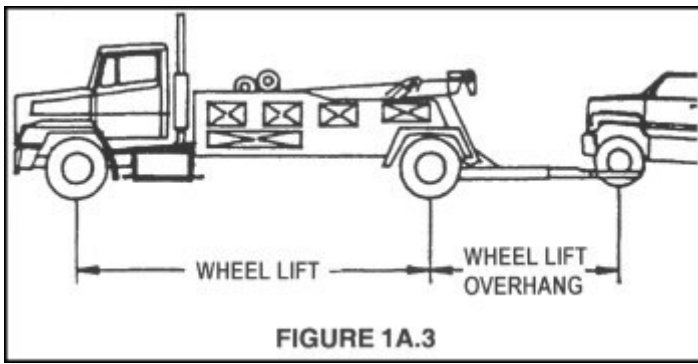

FIGURE 1A.3
1. Weigh the truck at its front and rear wheels and note the weight in either pounds or kilograms. Make sure the truck has a full tank of fuel, that the driver is in the cab, and that the truck is unloaded, except for usual towing equipment. On trucks with tandem axles, include the combined weight of both rear axles. See Figure 1A.1.
2. Carefully measure the wheel base and note the distance in either inches or centimeters. See Figures 1A.2 & 1A.3.
3. Measure the overhang and note the distance in either inches or centimeters. Refer to Figures 1A.2 & 1A.3.